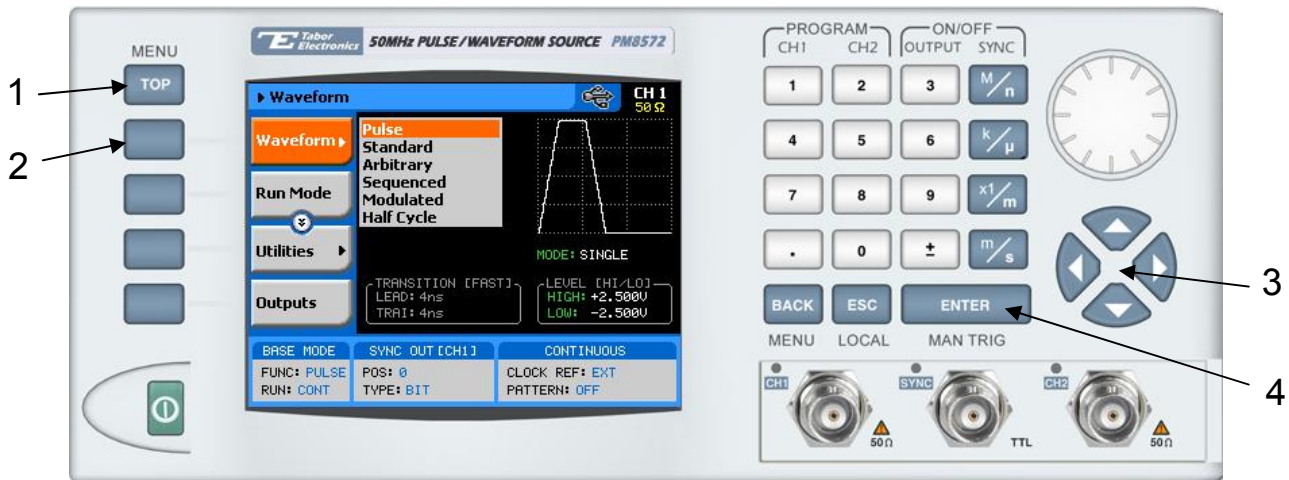

Figure 3-14, Accessing the Pulse Generator Menus
3. Scroll up or down to highlight the pulse option as shown in Figure 3-14.